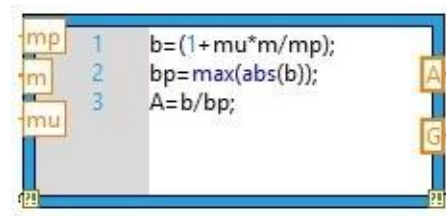

Figure 13: MathScript Icon Third Line
- II. Before writing any more scripts, note that there is one practical constraint imposed by DAC in the USRP which limits the amplitude of the input signals to 1, so each team is required to scale the generated signals so that the peak value of $|\tilde{s}(nT)|$ does not exceed 1. Set up a text-based script to divide the Base Band signal by the maximum of its absolute value $\{max(abs(b))\}$ to get the scaled Base Band signal. Figure 13 shows an example of such code: